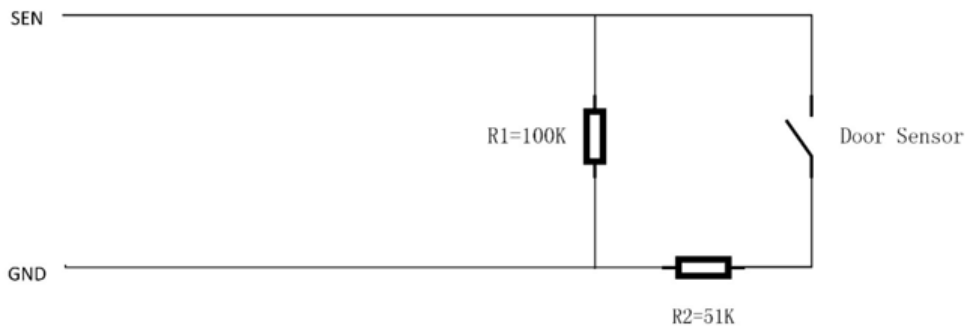

Figure 3-6-1
- While using supervisor functions, connect two resistor like figure 3-6-1, R1=100K  $\Omega$ , R2=51K  $\Omega$ .